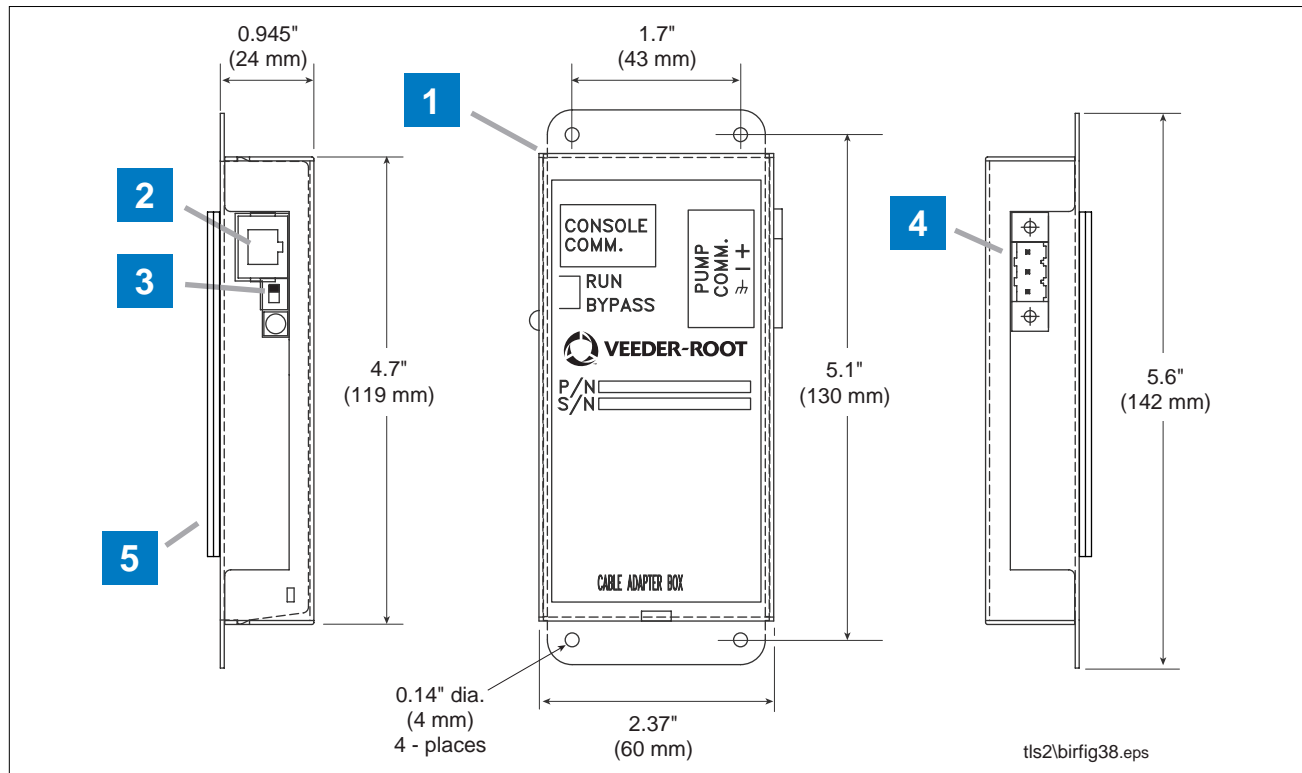

Figure 11. CAB Dimensions
1. Mount the CAB as described in Figure 11.
1. Mount the CAB as described in Figure 11 on page 15.